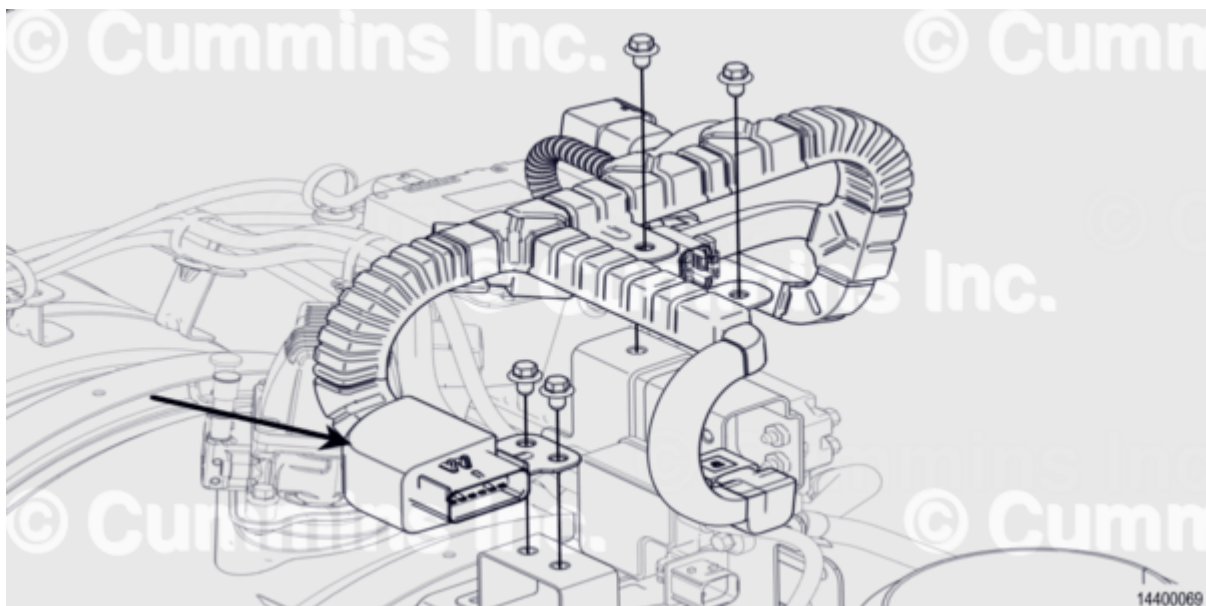

Figure 7, Aftertreatment Interface Harness
2. Disconnect the aftertreatment interface harness. See Figure 7.